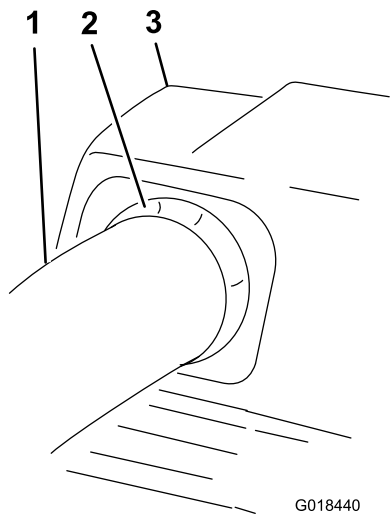

Figure 31
9. Pull the upper tube out slightly so that the seal extends outward and over the lower tube (Figure 31).
18. Pull the upper tube out slightly so that the seal extends outward and over the blower assembly (Figure 31).